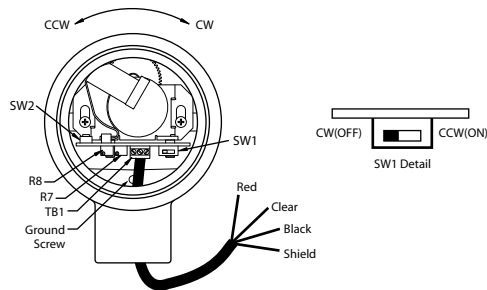

Figure 7:
- See Figure 7 below for related information.
This provides access to the edge of the SG1000B's printed circuit board, namely the direction switch SW1 (the slide switch), and the calibration switch SW2 (the push-button switch). See Figure 7 for locations of these switches.
- If the encoder shaft turns in the CW direction as the gate is moved from the fully-closed to the fully-open position, then set SW1 to the OFF position (i.e., toward the center of the PC board). See Figure 7.
- If the encoder shaft turns in the CCW direction as the gate is moved from the fully-closed to the fully-open position, then set SW1 to the ON position (i.e., toward the edge of the PC board). See Figure 7.
- D) Assuming conditions (A), (B), and (C) are proper, and your SG1000B still seems to behave improperly, then try re-calibrating again, paying close attention to the ten calibration steps.
- 2) If you have gone through troubleshooting hints (1A), (1B), (1C), and (1D), and if your SG1000B seems to otherwise respond properly, from fully-closed to fully-open, with the only exception being that strange values other than 4 mA and 20 mA are output for the fully-closed/fully-open positions (e.g., 3 mA at one-end and 23 mA at the other-end), then possibly the R7 and R8 factory potentiometer settings have been tampered with. See Figure 7 for location of these pots.